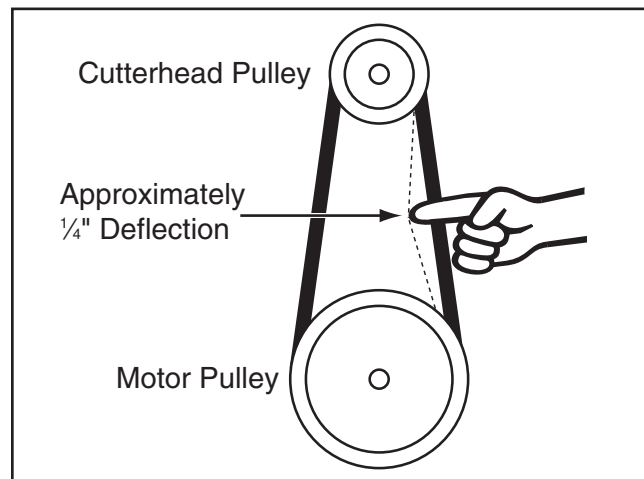

Figure 40. Correct belt deflection when properly tensioned.
3. Check belt tension: Each belt is correctly tensioned when there is approximately $\frac{1}{4}$ " deflection when it is pushed with moderate pressure, as shown in **Figure 40**.